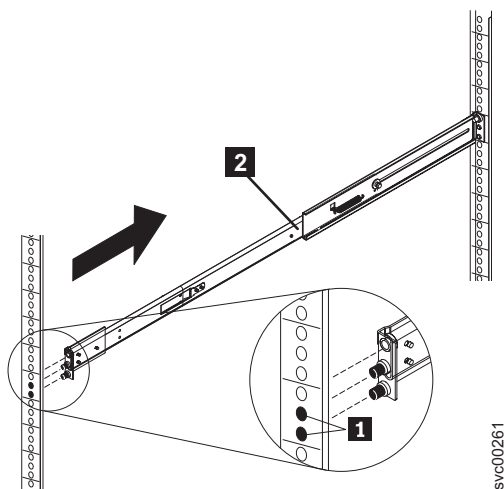

Figure 46. Removing the right slide rail from the front of the rack
3. Push the rail pins **1** out of the front rack mounting flange, as shown in Figure 46, to shorten the right slide rail and remove it from the front flange. Then pull the right slide rail forward to remove the slide rail from the rear rack mounting flange. Remove the left slide rail in the same way.